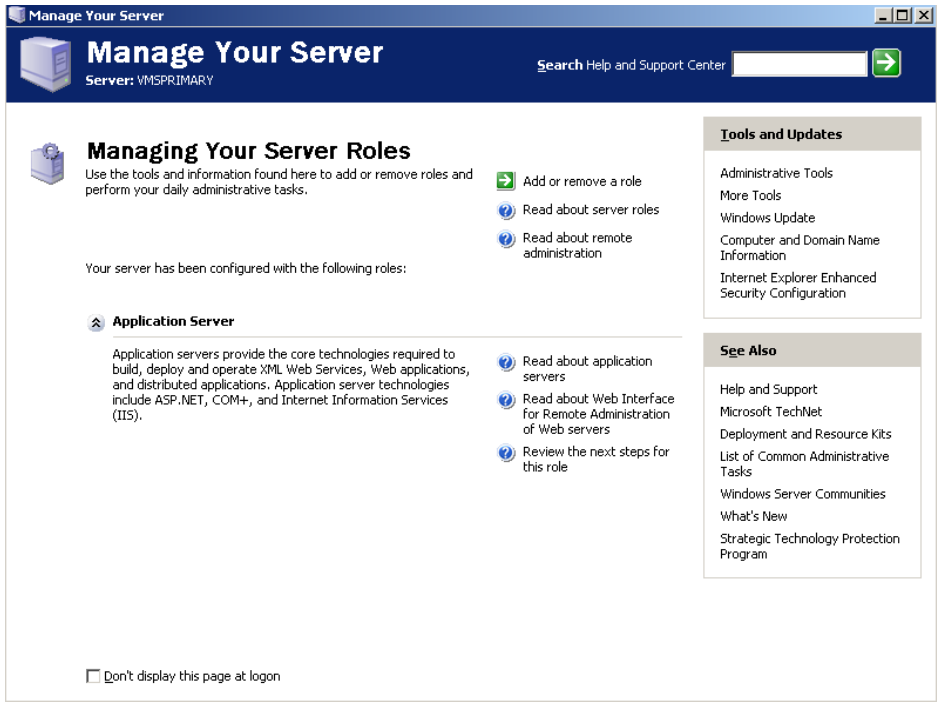

Figure D-1 Manage Your Server dialog
1. From **Manage Your Server** shown in figure D-1, click Add or remove a role. By default, Manage Your Server starts automatically when you log on. To open Manage Your Server, click Start, click Control Panel, double-click Administrative Tools, and then double-click Manage Your Server.